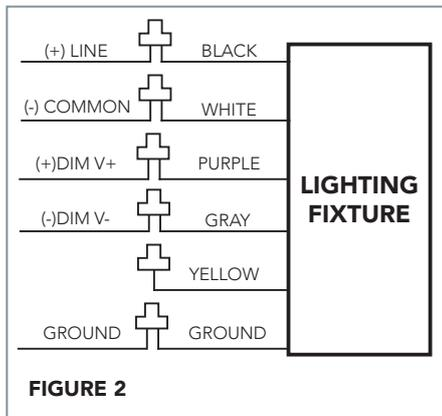

FIGURE 2
5. Secure door in lock hinges located at the left or right of the box just like illumination. (FIG. 2) Loosen four front screws in order to connect with the junction box. All electrical connections must remain inside back box. Secure any loose wires to harness prior to closing and securing door. Tighten door screw to seal fixture
Universal voltage driver permits operation at 120V through 277V, 50 or 60 Hz. For 0-10V Dimming, follow the wiring directions as in figure 2